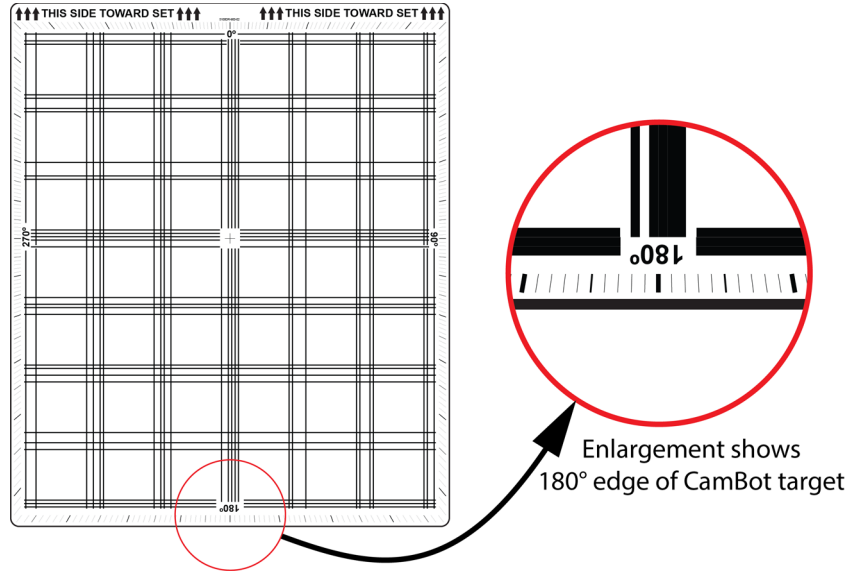

Figure 32 - CamBot calibration target, showing the position of the 180° edge
178° (CamBot 600 series). These pan ranges are relative to the base. Pan values displayed in SmartShell are absolute, i.e. relative to the CamBot target (Figure 32).
- If possible, position the CamBot target such that its 180° edge (Figure 32) points toward an area you do not intend to show on-air. This ensures maximum flexibility in terms of panning and the ability to recall presets more quickly.